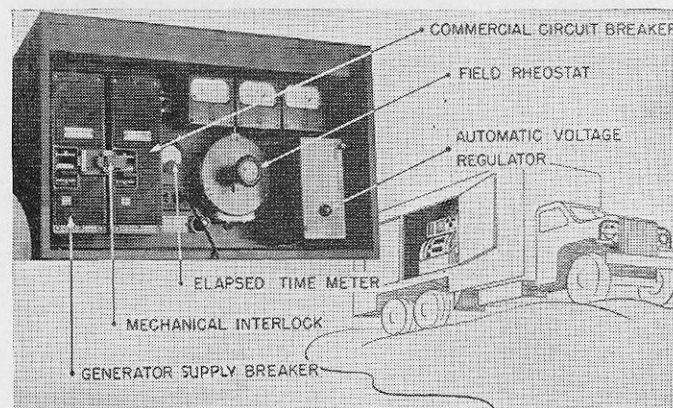
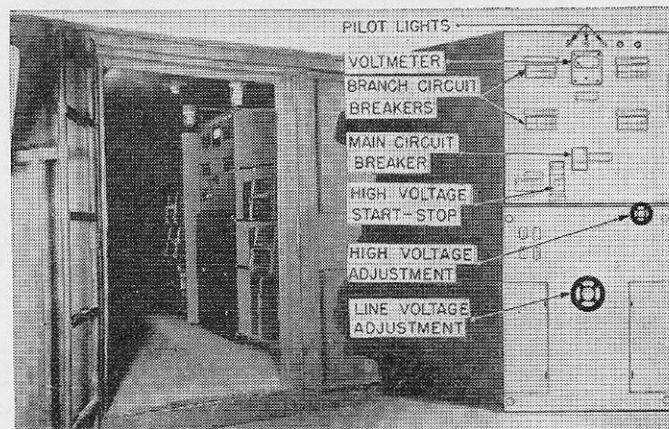

FIGURE 37.—Power control panel.
FIGURE 44.—Main power panel (trailer cab).
(1) Push the end of the cable at the power plant through the entrance hole in the side or floor of the truck. Connect the cable, making sure the white wire goes to the *ground* terminal.
(2) Paragraph 26 covers details of the connection at the trailer.
e. Make sure both circuit breakers (fig. 37) are in the "off" position.
(1) Check oil, gasoline supply, battery and radiator water level.
(2) Start the engine in accordance with procedures outlined in the instruction book.
(3) Make sure the engine is operating properly by observing a steady 60-cycle reading on the frequency meter (fig. 37).
(4) Close the **GENERATOR SUPPLY BREAKER**.
(5) Adjust the **AUTOMATIC VOLTAGE REGULATOR** to hold 120 volts by turning the **FIELD RHEOSTAT** fully counterclockwise and adjusting the **REGULATOR RHEOSTAT** for 120 volts on the meter. (Once this adjustment is properly made, only slight adjustments of the **REGULATOR RHEOSTAT** are necessary from time to time.)
a. *Step 1.*—Close the **MAIN CIRCUIT BREAKER** on the power panel (fig. 44) in the trailer cab.
b. *Step 2.*—If the weather is extremely cold or damp, close the branch circuit breakers (fig. 44) marked **HEATERS** No. 1, **HEATERS NO. 2** and **HEATERS IFF**. Also close the
d. *Step 4.*—Press the **HIGH VOLTAGE START** button on the power panel (fig. 44). The red pilot lamp should light indicating that the equipment is in operation. The incoming voltage should now be adjusted to 115 volts by means of the **LINE VOLTAGE ADJUSTMENT** (fig. 44).